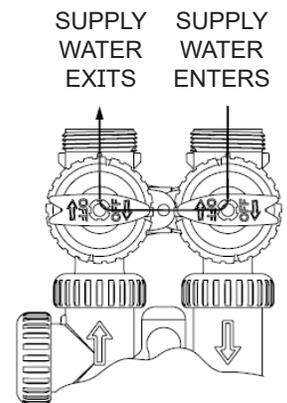

Figure 12
2. **Bypass Operation:** The inlet and outlet handles point to the center of the bypass, the control valve is isolated from the water pressure contained in the plumbing system. Untreated water is supplied to the plumbing system. (See Figure 12)